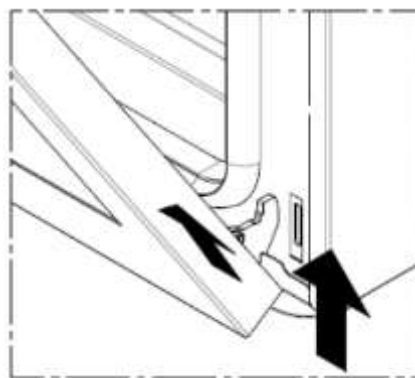

Fig. 8
- slowly close the door until the mechanical "block", lift it and remove it (Fig. 8).